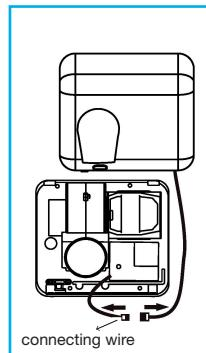

Figure 2
- Use the provided hex key to remove the two screws securing the cover and carefully remove the panel, avoiding damage to the sensor wire (see Figure 2).